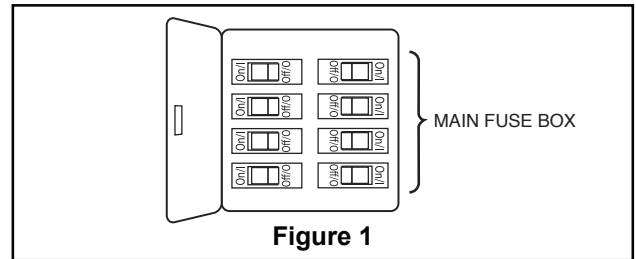

Figure 1
1. Connect the green grounding lead from the ceiling bracket to the supply grounding, from motor and from wall control conductor (this may be a bare wire or wire with green colored insulation). Securely connect wires with a wire connector. Securely connect the white wire (coming from motor) to the white supply (neutral) wire using a wire connector. Securely connect the black wire (coming from motor) to the black wire from wall control using a wire connector. Securely connect the blue wire (coming from motor) to the blue wire from wall control using a wire connector. (Figure 1)
2. After splicing and making the wire connections, the wires should be spread apart and turned upward with the grounded conductor and the equipment-grounding conductor on one side of the ceiling bracket and the ungrounded conductor on the other side of the ceiling bracket. (Figure 1)
1. Remove one of the two shoulder screws in the hanger bracket. Loosen the second shoulder screw without fully removing it. Assemble canopy by rotating key slot in canopy over shoulder screw in hanger bracket. Tighten shoulder screw. Fully assemble and tighten second shoulder screw that was previously removed. (Figure 1)
1. Position blades over the threaded posts and secure with the 3/16"-24 serrated head screws and flat washers. (Figure 1)